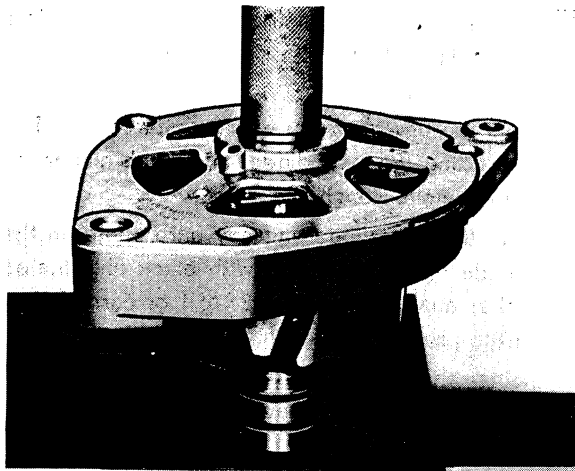

Fig. 3-42. Assembling rotor and drive end shield
3. Press the drive end bearing shield and spacing ring on the rotor, see Fig. 3-42.